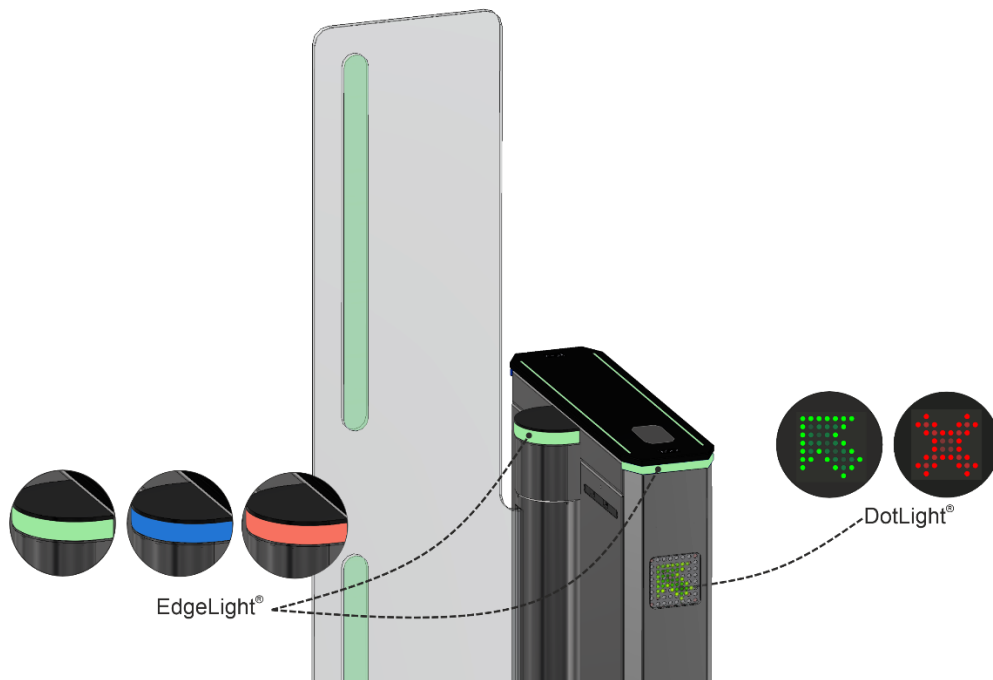

Fig.6 – Light indication of the turnstile status
The turnstile status is displayed by LED display board (3) *DotLights®*, installed in the cabinet's frame. The lit blue LED means initial state of the turnstile (Fig.6). In case of attempt of unauthorized access red LED starts blinking and audible signal is generated on control desk. When opening command is issued, LED is changed to green from the side of authorized access. If unauthorized access is attempted when swing leaves (10) are opened, then the leaves will be closed, if there is no any obstacle in the leafs' swinging area.